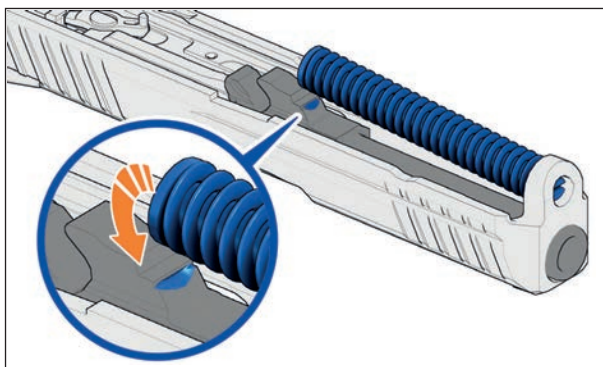

Figure 30 – Reassembling the recoil spring onto the barrel and slide
4. Push the recoil spring forward into position, compressing the recoil spring, then pivot the back of the recoil spring guide rod on to the stepped mounting surface located on the front of the barrel locking lug (see Figure 30). Ensure the front of the recoil spring is facing forward in the slide.